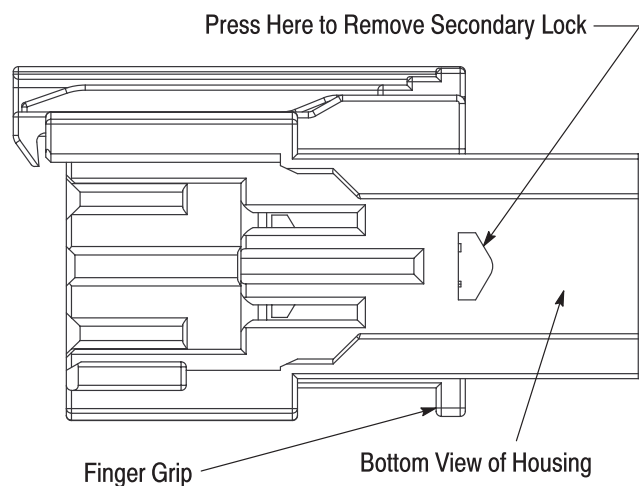

Figure 8
1. To remove the contacts from the 4-Position Connector Housing, remove the secondary lock from the housing using a small screwdriver (or similar tool). Press the bottom portion of the secondary lock away from the housing until fully removed. See Figure 8.